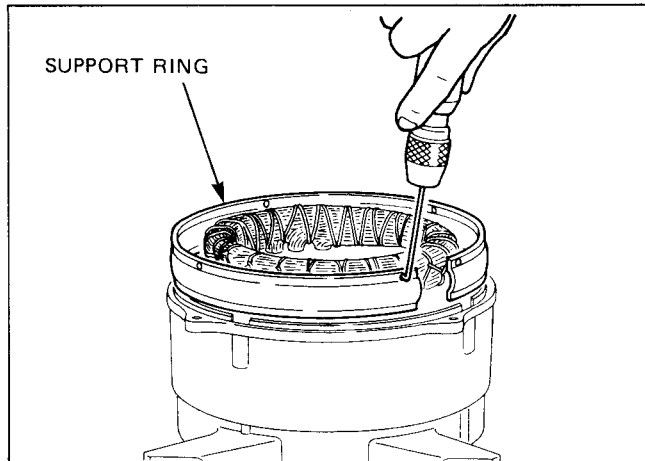

Fig. 10-18
(2) Insert a small hook into the hole inside of the support ring and pull it out. (See Fig. 10-18.) ● If a small hook is unavailable, remove the stator by the following procedure: a. Hold the rear cover and stator assembly open side down. b. Place a cushion under the stator to protect it when dropped. c. Hit on the bearing housing of rear cover with a wooden block.	Be careful not to give a damage to the stator winding.